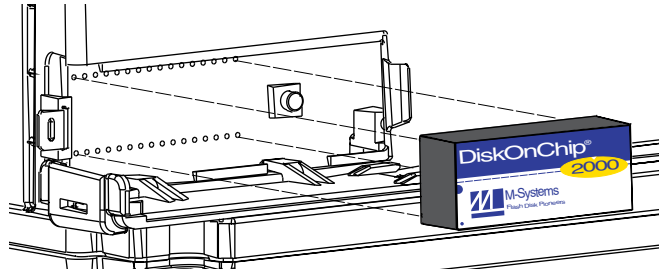

Figure 5: Installing the memory expansion chip
10. Align pin one on the memory expansion chip with pin one on the socket (see Figure 5).